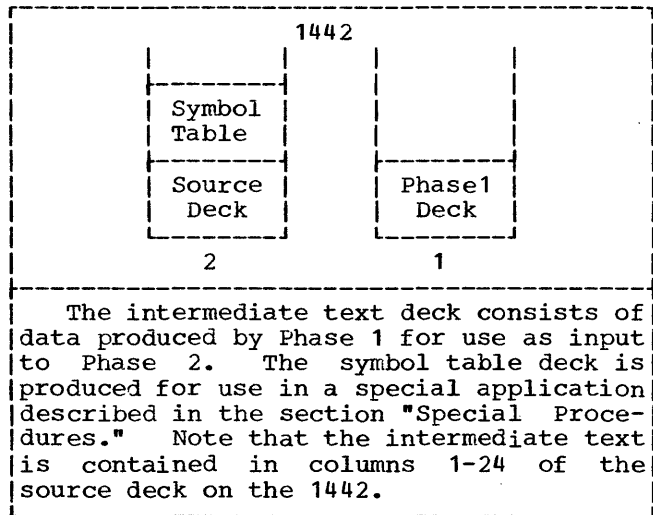

Figure 5. Stacker Contents at End of Phase 1
8. A program wait with the location counter containing 1EI occurs at the completion of Phase 1. If the system has provisions for typing messages, a message "1EI" is typed on the printer or printer-keyboard. The contents of the stackers at this point are shown in Figure 5.